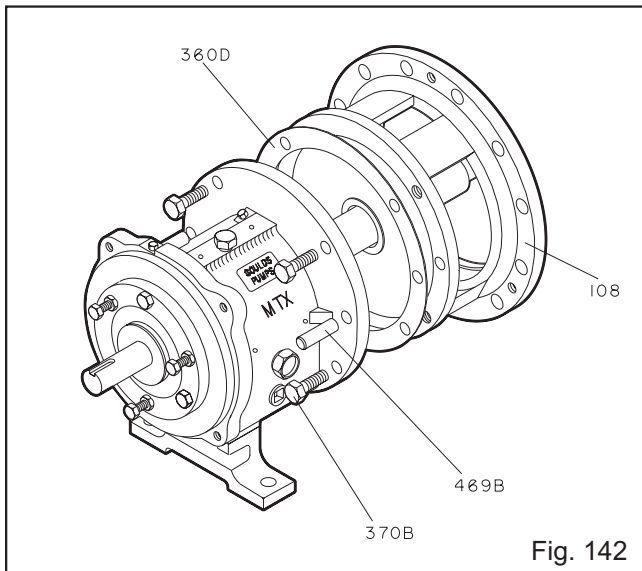

Fig. 142
5. Place manila gasket (360D) on frame (228) (Fig. 142).
6. Install frame adapter (108), onto frame assembly. Align bolt holes and dowel locations with those on frame (Fig. 142).